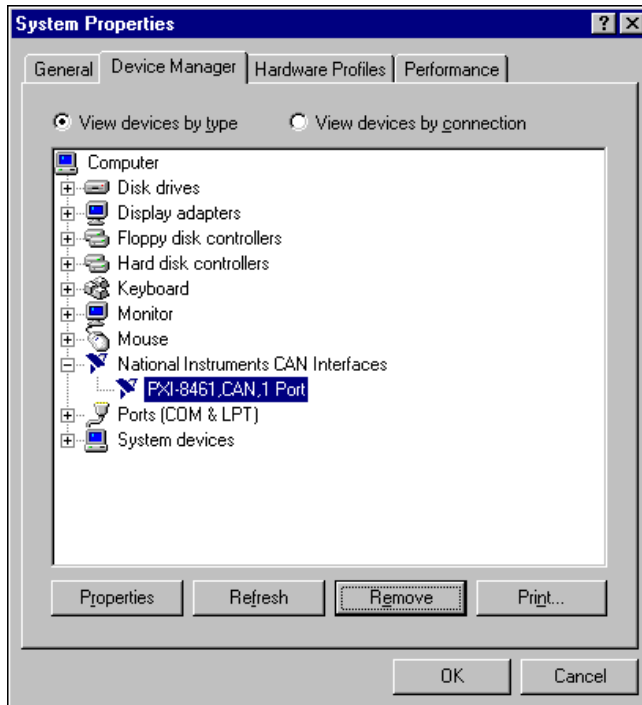

Figure A-1. Selecting an Interface to Remove from Windows 98/95
6. To remove a board, select it from the list of boards under **National Instruments CAN Interfaces** as shown in Figure A-1 and click on the **Remove** button.